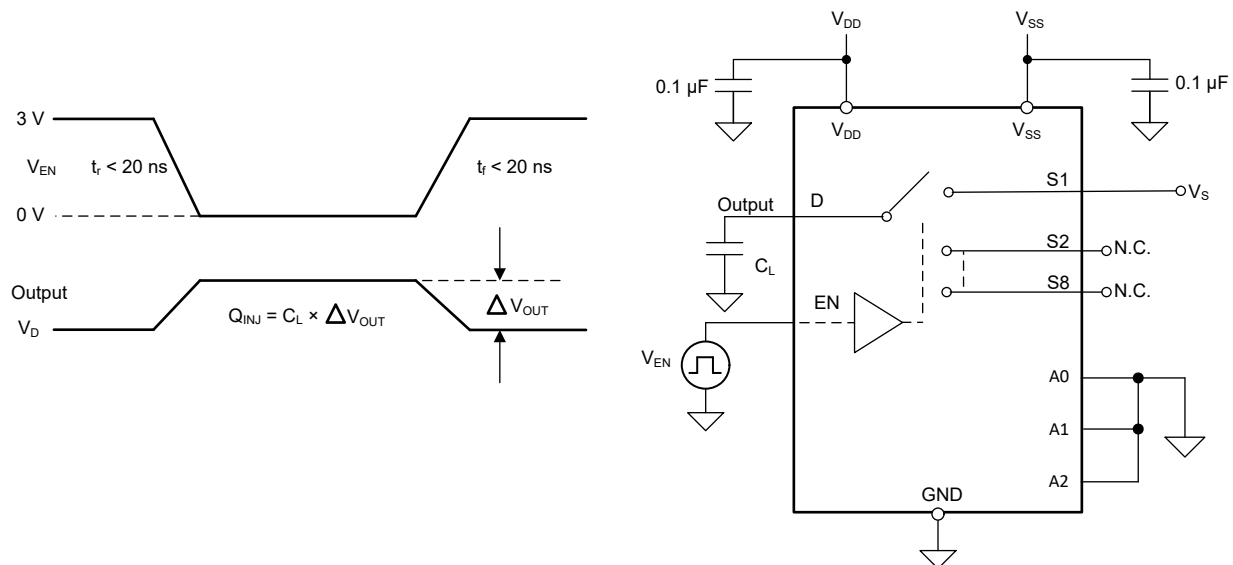

Figure 7-9. Charge-Injection Measurement Setup
The TMUX6208 has a transmission-gate topology. Any mismatch in capacitance between the NMOS and PMOS transistors results in a charge injected into the drain or source during the falling or rising edge of the gate signal. The amount of charge injected into the source or drain of the device is known as charge injection, and is denoted by the symbol Q_{INJ} . Figure 7-9 shows the setup used to measure charge injection from source (Sx) to drain (D).
The TMUX6208 and have a transmission-gate topology. Any mismatch in capacitance between the NMOS and PMOS transistors results in a charge injected into the drain or source during the falling or rising edge of the gate signal. The amount of charge injected into the source or drain of the device is known as charge injection, and is denoted by the symbol Q_{INJ} . Figure 7-9 shows the setup used to measure charge injection from source (Sx) to drain (D).